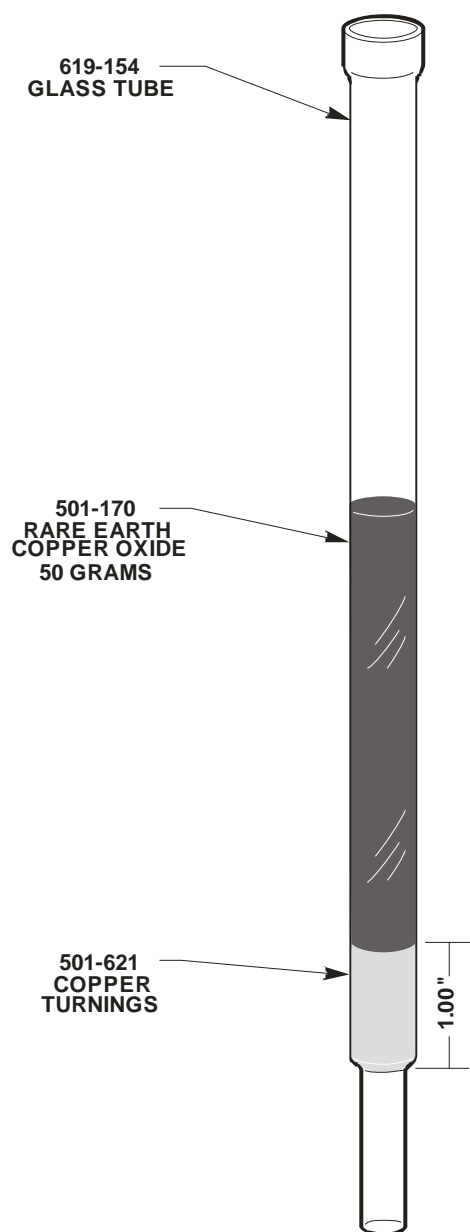

Figure 3-23
1. Loosen the Screw in the Removal Block and remove the block from the top of the catalyst heater tube. Pull the catalyst heater down and remove the tube. Refer to Figure 3-23 on page 3-54.